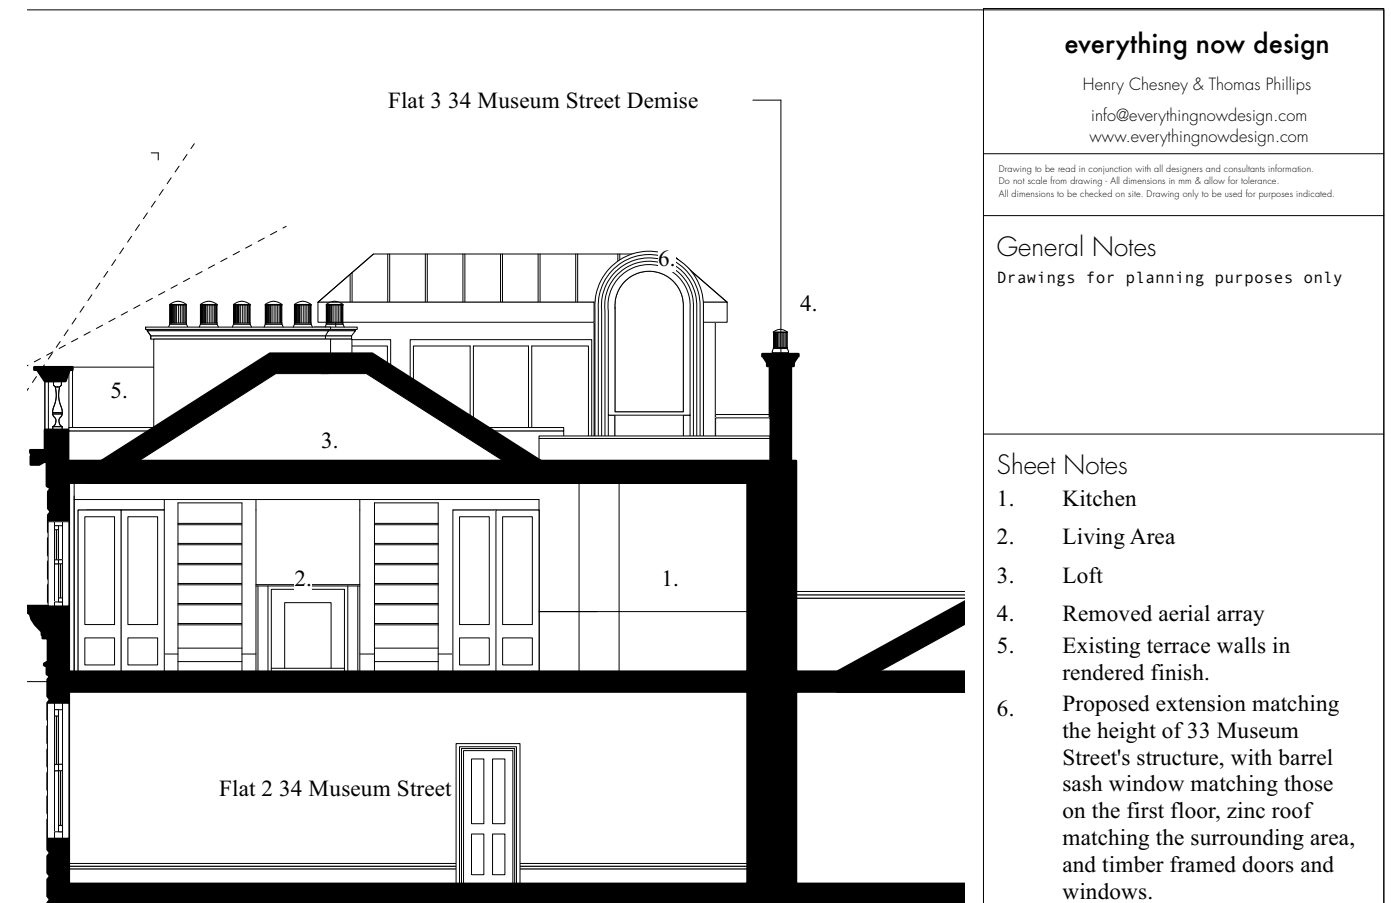

Fig. 10. Elevation of proposed roof structure
- Erect new fully insulated timber framed structure faced with no-combustible cement-board with render finish to complement existing surrounding parapet wall (Fig. 10).